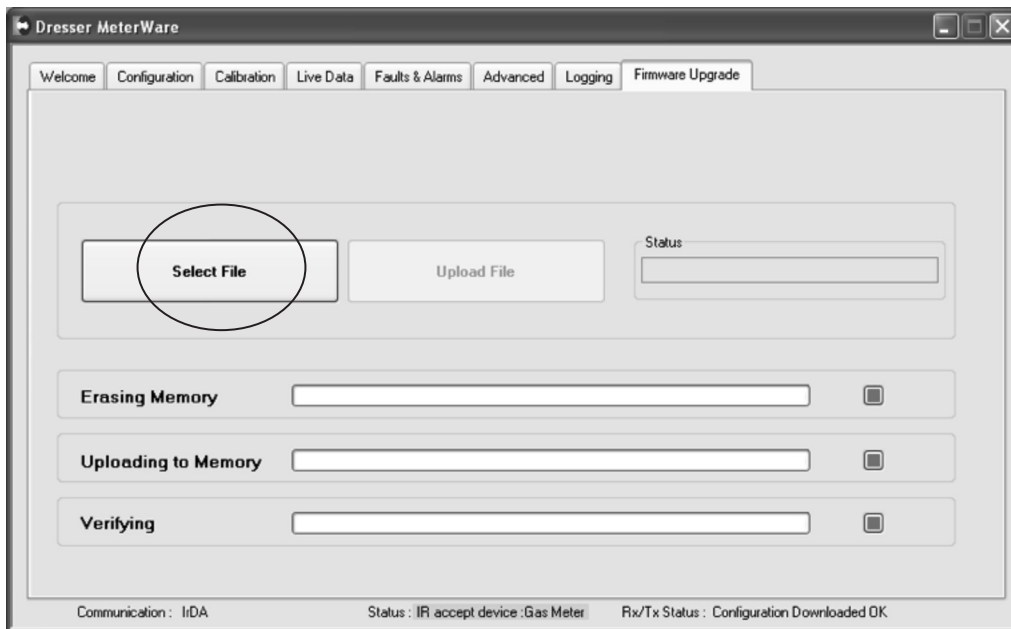

Figure 12.3 - Firmware Upgrade Screen
2. From the next screen, click Select File. Refer to Figure 12.3.